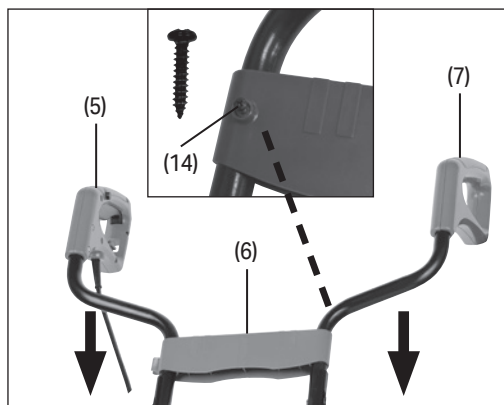

Fig. 1
6.1 Fitting the Frame (Fig. 1)